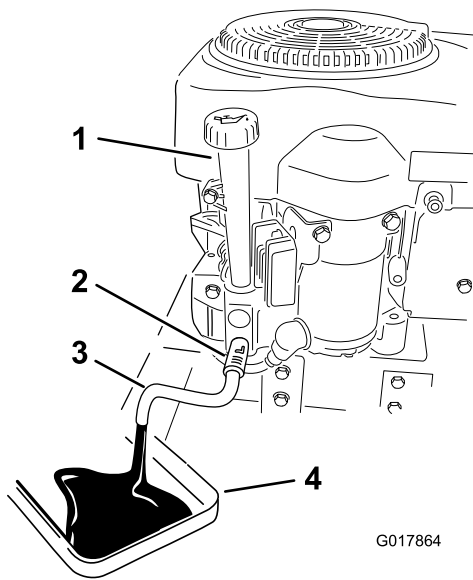

Figure 30
4. Clean the area around the drain valve and on the machine frame. Locate the oil drain hose and slide it over the drain valve (Figure 30).
6. Place a pan underneath the machine directly below the drain hose as shown in (Figure 30).
- Turn the drain valve 1/4 counter clockwise to open and allow the oil to drain. Remove the oil fill cap/dipstick (Figure 30).
- Slowly pour approximately 80% of the specified amount of oil into the fill hole (Figure 30). Check the oil level; refer to Checking the Oil Level.